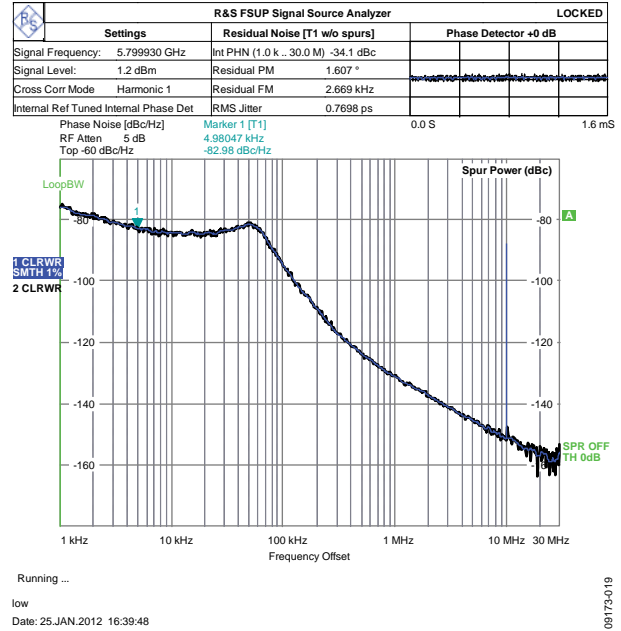

Figure 19. Spectrum Analyzer Display
6. In the software window, set the VCO center frequency (the example in Figure 19 uses 5800 MHz). Set the PFD frequency to 10 MHz, and program the reference frequency to equal 10 MHz. The charge pump current should equal 0.31 mA. See Figure 20 for the suggested setup.
7. Measure the output spectrum. Figure 19 shows a 5800 MHz output.